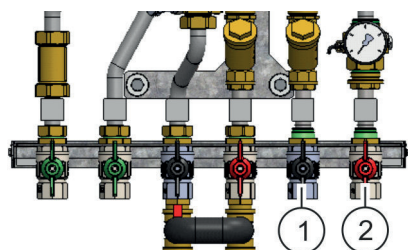

Fig. 27: Connecting the radiators
1. → Connect the return line to the heating connection return line (Fig. 27/1) and tighten it by hand.
2. → Connect the flow line to the heating connection flow line (Fig. 27/2) and tighten it by hand.